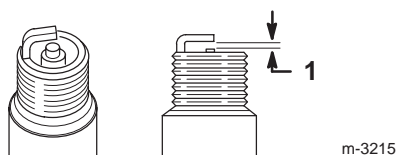

Figure 25
9. Set the gap between the electrodes on the spark plug at 0.030 in. (0.76 mm) as shown in Figure 25.